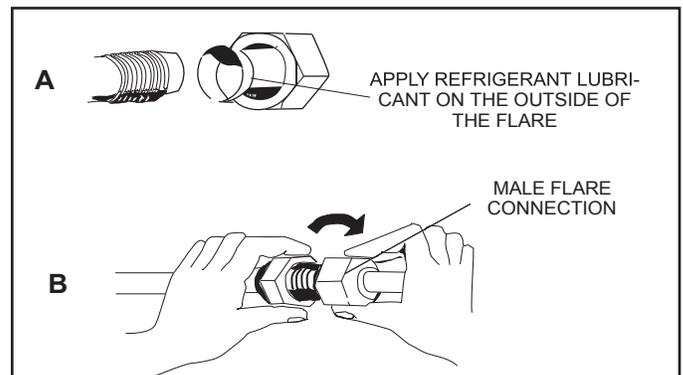

Figure 3. Making Connections (Male to Female Connection)
- Apply recommended HFC-410A refrigerant lubricant to the outside of the flared refrigerant lines (Figure 3-A).
6. Align the threaded connections with the flared refrigerant lines. Tighten the flare nuts lightly at first to obtain a smooth match (Figure 3-B).